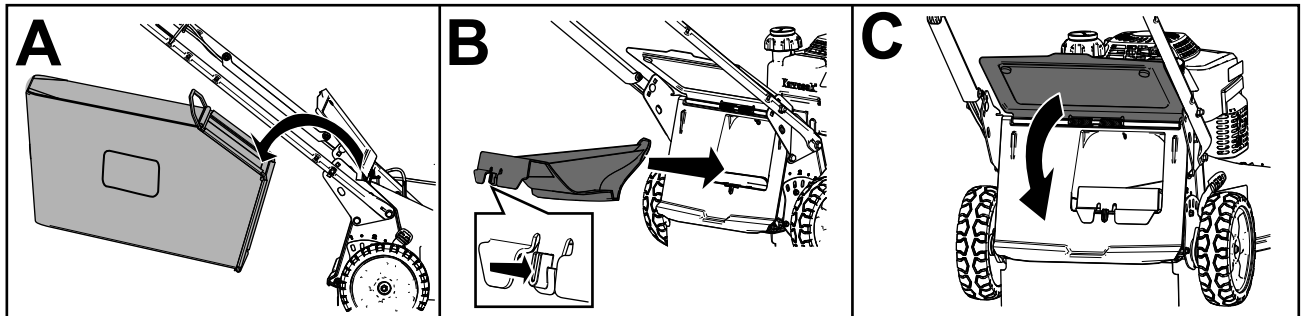

Figure 16
- If the grass bag is on the machine, remove it (A of Figure 16).
- If the rear-discharge plug is not installed, grip it by the handle, raise the rear deflector, and insert it into the rear-discharge chute until the latch locks into place (B of Figure 16).
3. Remove the bag rod on the grass bag from the notches at the base of the handle (A of Figure 16).
4. Install the discharge plug (B of Figure 16).
5. Lower the rear deflector (C of Figure 16).